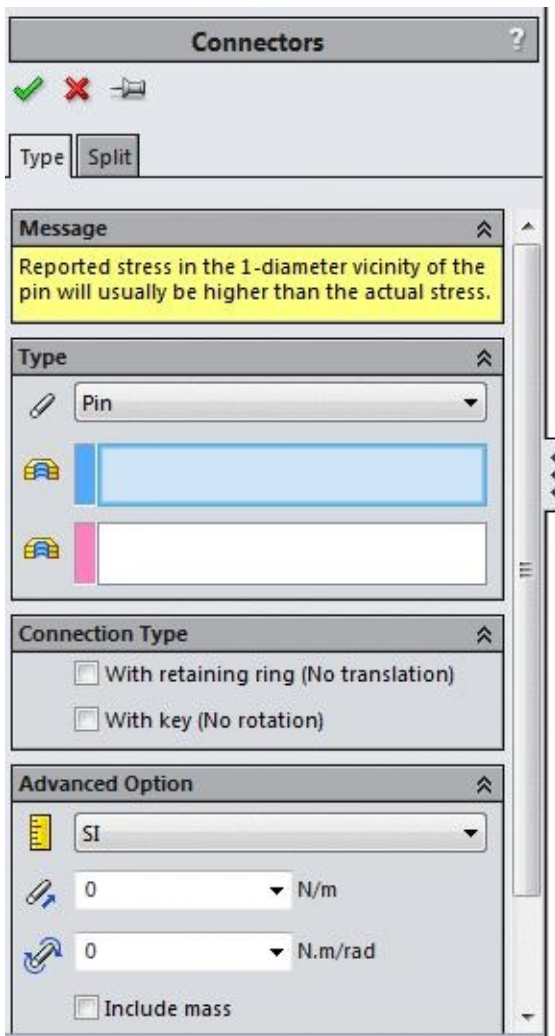

Figure-72. Connectors PropertyManager with Pin option
- Click on the **Pin** button from the **Connections Advisor** drop-down. The **Connectors PropertyManager** will be displayed with the options related to pin connector; refer to Figure-72.